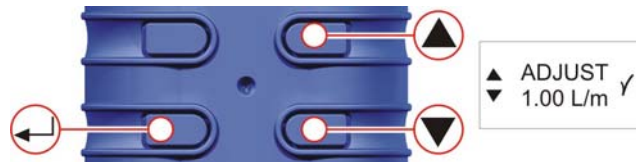

Figure 24 (Low Set) Adjust Screen
J. CALIBRATION OF LOW SET POINT (Fig. 24)